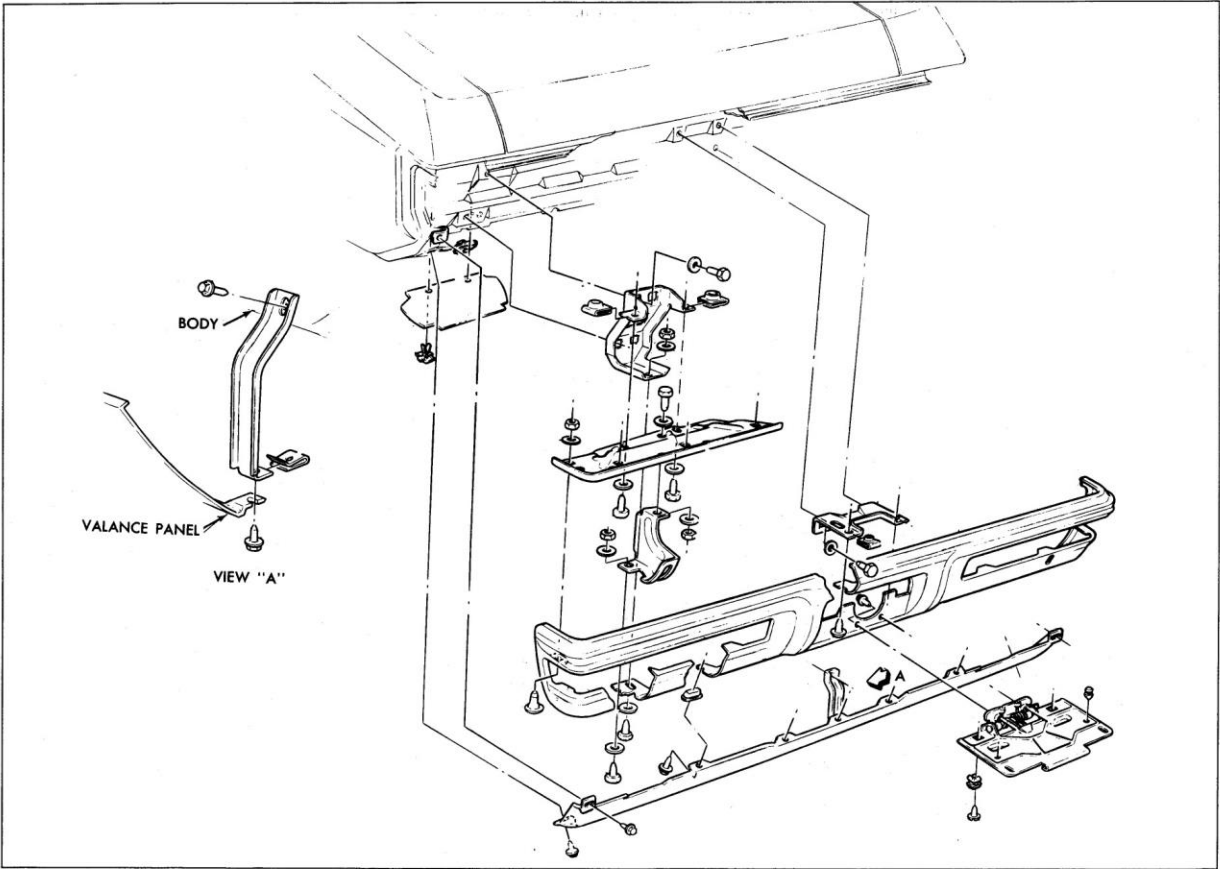

Fig. 14-17 Tempest Rear Bumper Assembly
REMOVE - TEMPEST (Fig. 14-17)
1. Remove valance panel (Fig. 14-17).